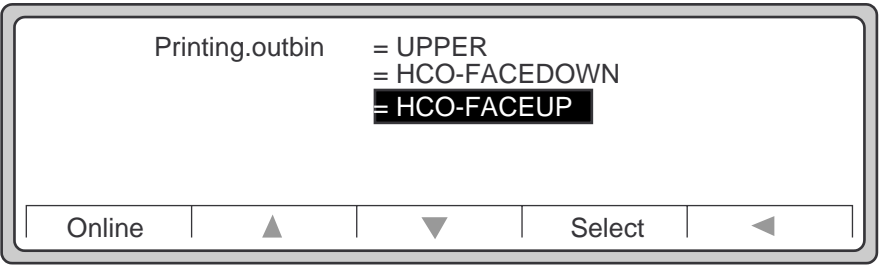

Figure 4-34 Printing.outbin Submenu
4. Select **outbin** to display the Printing.outbin submenu, as shown in Figure 4-34.